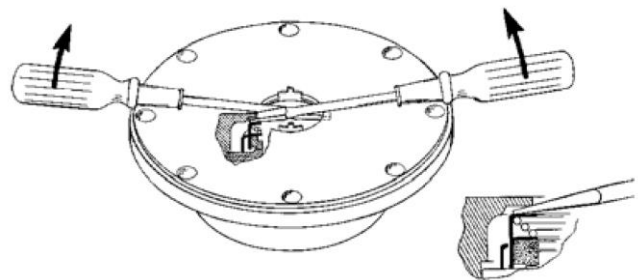

Figure 5 – Mechanical Seal Removal
7. Remove the head capscrews (21). Gently pry the head away from the cylinder.
8. Slide the head off the shaft. The head O-ring (72), bearing (24), and mechanical seal (153) will come off with the head assembly. Remove and discard the head O-ring.
- a. Pull the bearing (24) from the housing in the head.
- b. To remove the mechanical seal, use two screw drivers against the backside of the seal jacket to gently push the seal from the head (see Figure 5). Use care when placing the screw drivers to prevent damage to the seal faces. Remove and discard the seal O-rings.